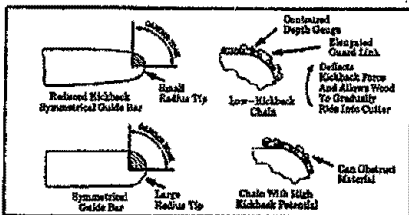

Figure 5
- **Reduced-Kickback Guide Bar** designed with a small radius tip which reduces the size of the kickback danger zone on the bar tip. Figure 5. A Reduced-Kickback Guide Bar is one which has been demonstrated to significantly reduce the number and seriousness of kickbacks when tested in accordance with the safety requirements for gasoline powered chain saws as set by the American National Standards Institute, Inc., Standard B175.1 - 1985.
- **Low-Kickback Chain**, designed with a contoured depth gauge and guard link which deflect kickback force and allow wood to gradually ride into the cutter. Figure 5. Low-Kickback Chain is chain which has met kickback performance requirements of ANSI B175.1 (Safety Requirements for Gasoline-Powered Chain Saws) when tested on a representative sample of chain saws below 3.6 cubic inch displacement specified in ANSI B175.1.